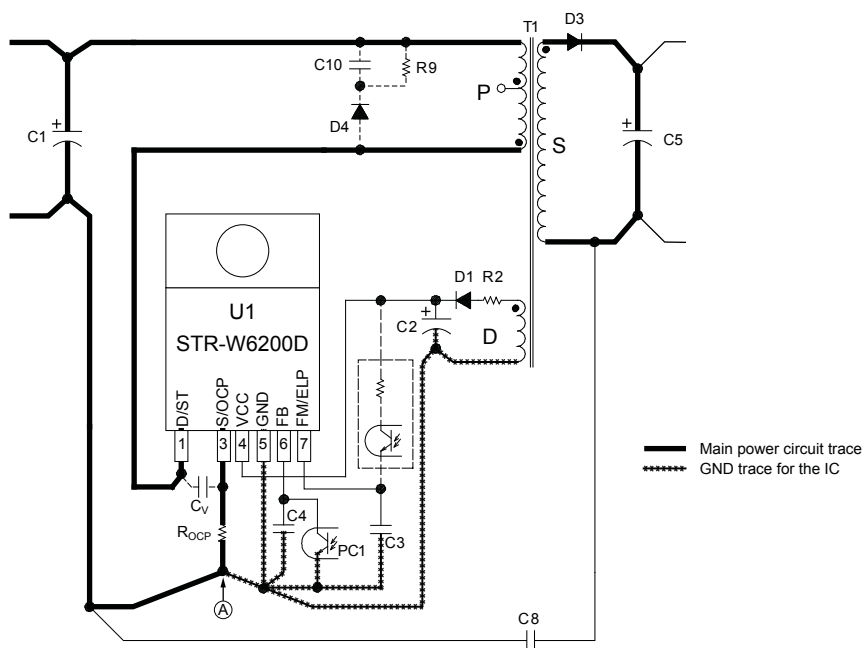

Figure 27. Peripheral circuit example around the IC
Figure 27 shows a circuit layout design example for the IC peripheral circuit and secondary smoothing circuit.
- **ROCP Trace Layout:** ROCP should be placed as close as possible to the S/OCP pin. The connection between the power ground of the main trace and the control circuit ground should be at a single point ground (A in figure 27) to remove common impedance, and to avoid interference from switching currents to the control circuit.